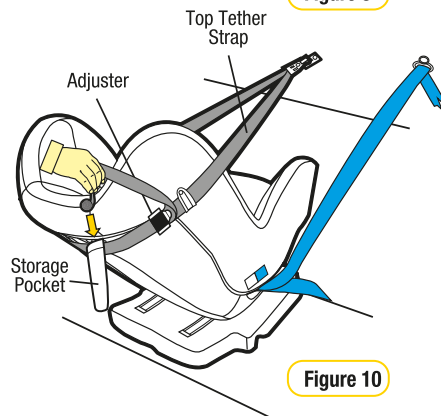

Figure 10
**Step 8:** Store any excess webbing, from the top tether strap, in the storage pocket provided on the restraint (refer Figure 10).